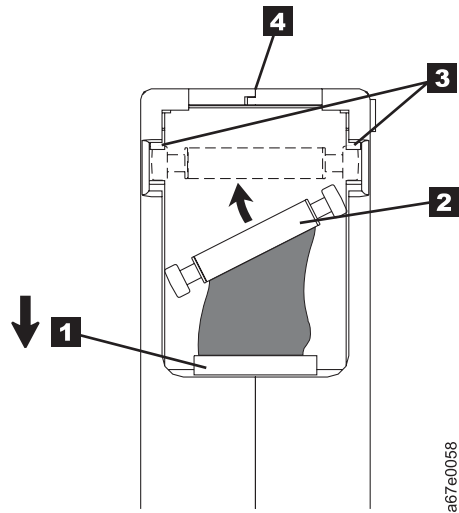

Figure 41. Placing the dislodged leader pin into the correct position.. The cartridge door is open to show the leader pin.
1. Slide open the cartridge door ( **1** in Figure 41 on page 244) and locate the leader pin **2**. You may need to shake the cartridge gently to roll the pin toward the door.